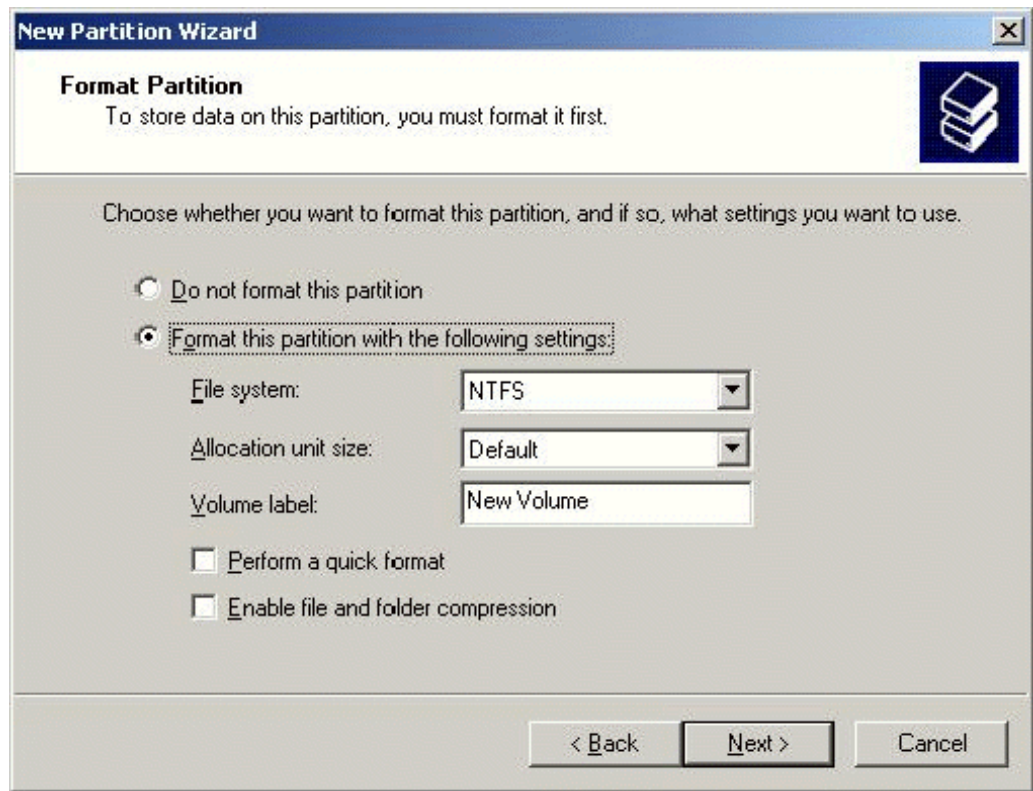

Figure 2-14: Formatting the Partition
5. When the Format Partition panel appears (Figure 2-14 on page 2-19), click **Format this partition with the following settings** and select the following options: